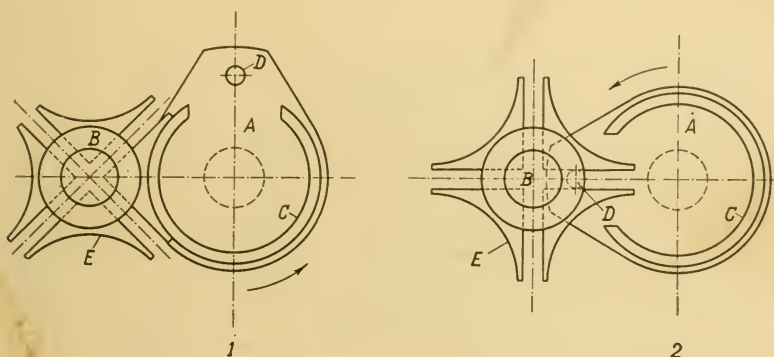

FIGURE 62
In Fig. 62 we have two line drawings of a standard intermittent movement such as is now universally used in modern motion picture projectors. Incidentally, by means of a differently designed and constructed movement, the Powers intermittent performs precisely the same functions as does the standard type of Geneva movement, though Powers projectors are no longer widely used.
(34) Figures 62 and 63 illustrate the standard type of Geneva movement. It consists of a maltese cross of steel, B, commonly referred to as the "star," and steel cam A, upon which is mounted a master pin of steel, D, which drives the "star." This cam also carries a flat circular surface, C, by means of which the star, and therefore the intermittent sprocket which is mounted upon its shaft, are locked immovably while standing still—that is, in the interval the photograph is poised over the aperture and is being projected to the screen.
(35) The action is as follows: In part 1, Fig. 62, we see the two parts, cam A carrying the master pin D, which is in continuous rotation so long as the projector is in motion, and star B, which is standing still—one of its four curved surfaces E, being in contact with the surface of cam ring C, in which position it is evident star B cannot be rotated. It must, in fact, remain perfectly still until the two surfaces are released. (36) In this condition the movement is said to be “on the lock.”
A quarter segment of a circle is 90 degrees. (A circle is divided into 360 degrees.) Pin D, in Fig 62, is an engagement with the star slot and therefore moves the intermittent sprocket through exactly 90 degrees, but is disengaged for the rest of the circle or ( $360^{\circ}-90^{\circ}$ ) 270 degrees.
(48) Adjustment between cam A and star B (Fig. 62 and 63) must be accurate to permit no perceptible movement of the intermittent sprocket. Test it by rocking it back and forth with your finger while the movement is on the lock. At the same time the adjustment must not be too close or it will have a tendency to bind when the projector mechanism flywheel is turned. (49) The adjustment is correct when the flywheel rotates freely and there is no lost rotary motion in the intermittent sprocket when the movement is on the lock—that is, when the locking ring C is engaged with one of the star quarter-circles E.
(56) If the tension applied at the gate is just enough to permit the film to stop perfectly still for a brief interval over the aperture (without unsteadiness or overshooting of the screen image), then the intermittent is accomplishing its work smoothly. But if the aperture tension is excessive, the actuating pin D in Fig. 62 will press against the side of the star slot with sufficient force to overcome the pull of normal tension and this added to the excessive tension at the aperture will, in time, destroy
The projectionist can do nothing to alter the intermittent speed. Most movements are now what are known as "three-to-one." One complete rotation of the cam carrying actuating pin D, Fig. 62, is one complete cycle of action. Divide that action into four equal parts: the intermittent movement star, and therefore the intermittent sprocket mounted on its shaft, is in action moving